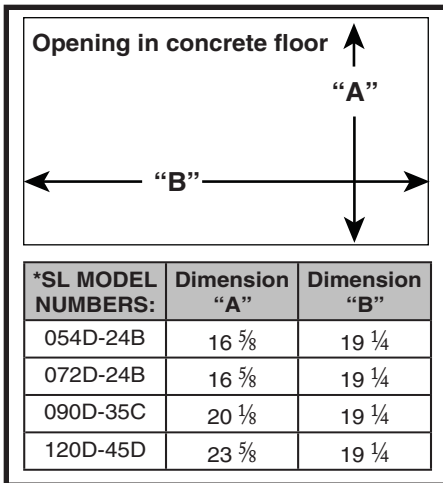

Figure 16. Cutout Dimensions
1. Create an opening in the floor according to the dimensions in Figure 16.